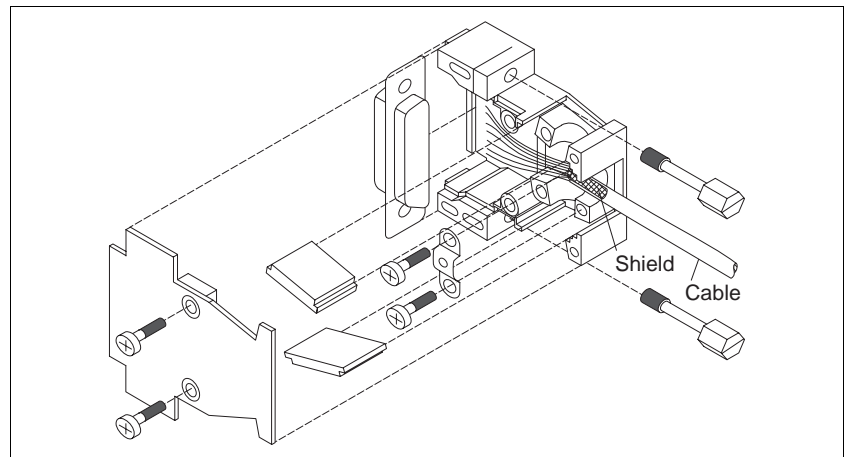

Fig. 2-9 Signal connector assembly – device end
3. Insert two hexagon head screws into the connector shell (fig. 2-9).